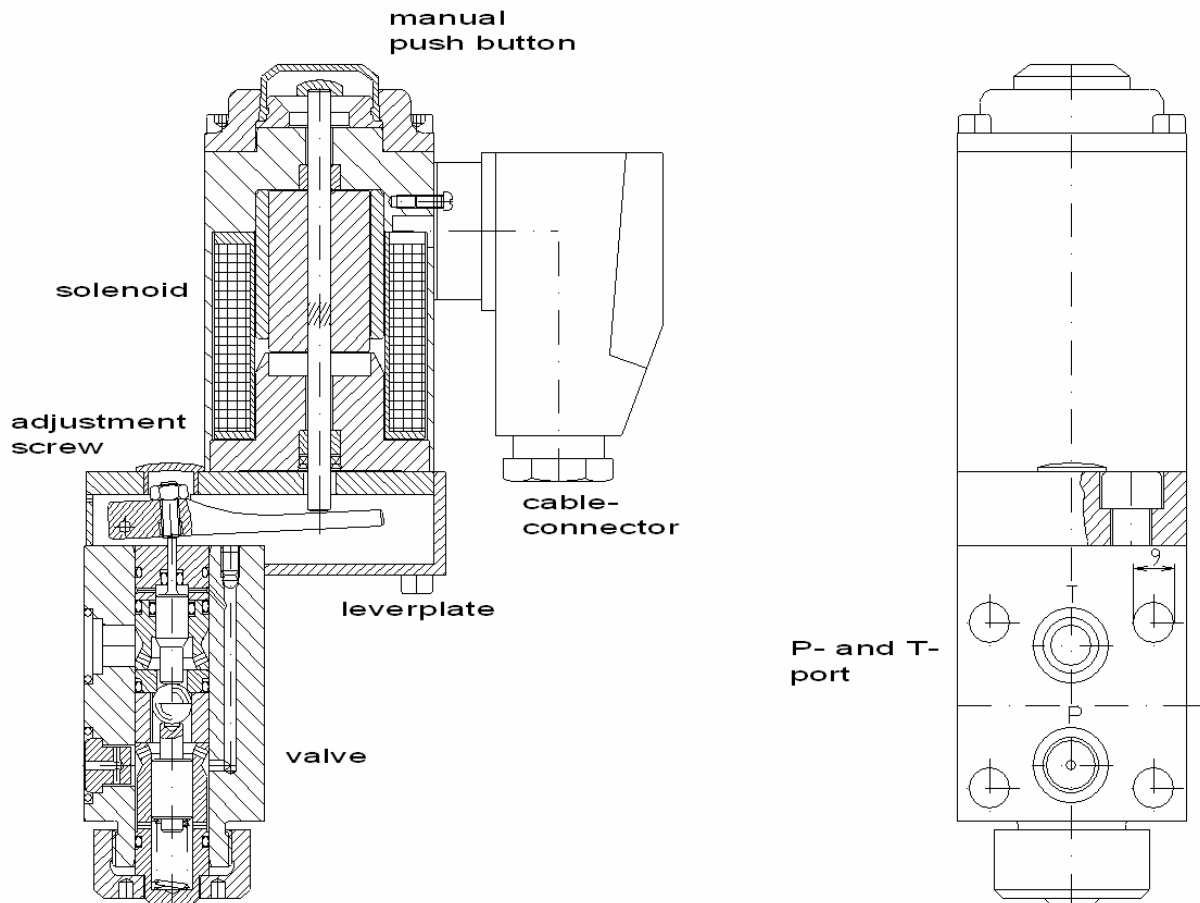

fig. 2: 2 way, 2 position valve
- The correct installation on a 2-way 2 position valve, the A-port is closest to the solenoid and the P-port is the port furthest from the solenoid. Refer to fig. 2.